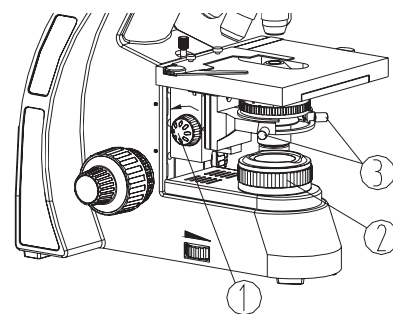
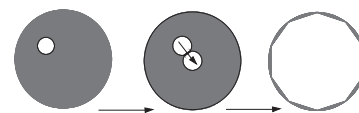

Figure 4.
Figure 5.
9. Center the condenser. Rotate the condenser knob ① to raise it to the highest position (see Figure 4). Rotate the 10X objective into the light path, and focus the specimen. Rotate the field diaphragm adjustment ring ② to close the field diaphragm as much as possible. You will see a circle of light surrounded by a dark field of view. Rotate the condenser knob ① until the circle of light is crisp and in focus around the edges. Turn the center adjustment screw ③ to place the circle of light in the center of the field of view (see Figure 5). Gradually open the field diaphragm to expand the circle of light until it just fills the entire field of view. By limiting the diameter of the beam entering the condenser, the field diaphragm prevents other light from interfering, thereby improving the image contrast.
10. Set the aperture diaphragm. The aperture diaphragm controls the amount of light that passes through the condenser. Set the aperture by rotating the diaphragm adjustment ring ② (see Figure 4) so that the arrow points to the related magnification of the objective lens in use.